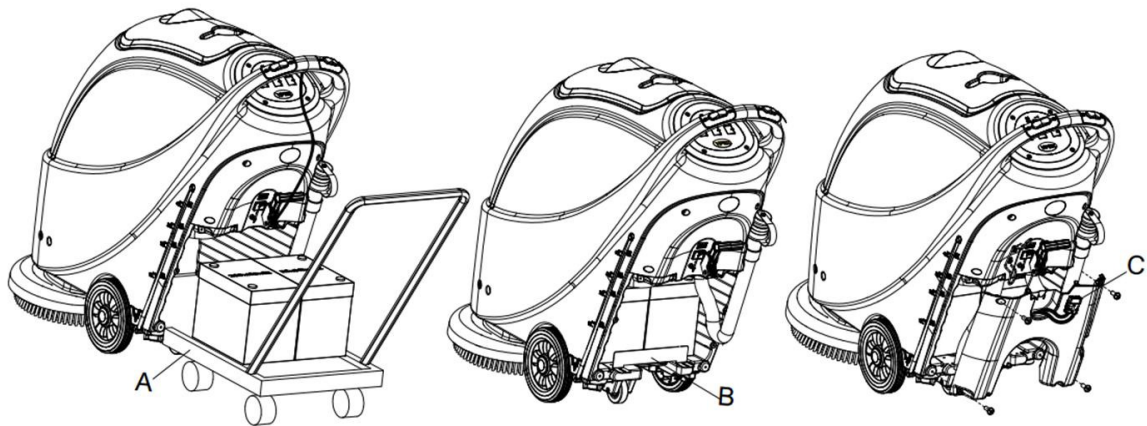

Figure 7
14. Install the battery with specially made battery installation tools (**A, Figure 7**). After the battery is installed, remove the battery installation tools, and install the battery fixation bracket (**B, Figure 7**).
15. Put the battery connector (**C, Figure 7**) through the hole on the top of the battery box cover, put the draining hose through the right hole of the battery box cover, fix the battery box cover with 4 screws, and then install the squeegee drawing cord, draining hose, and the squeegee successively.